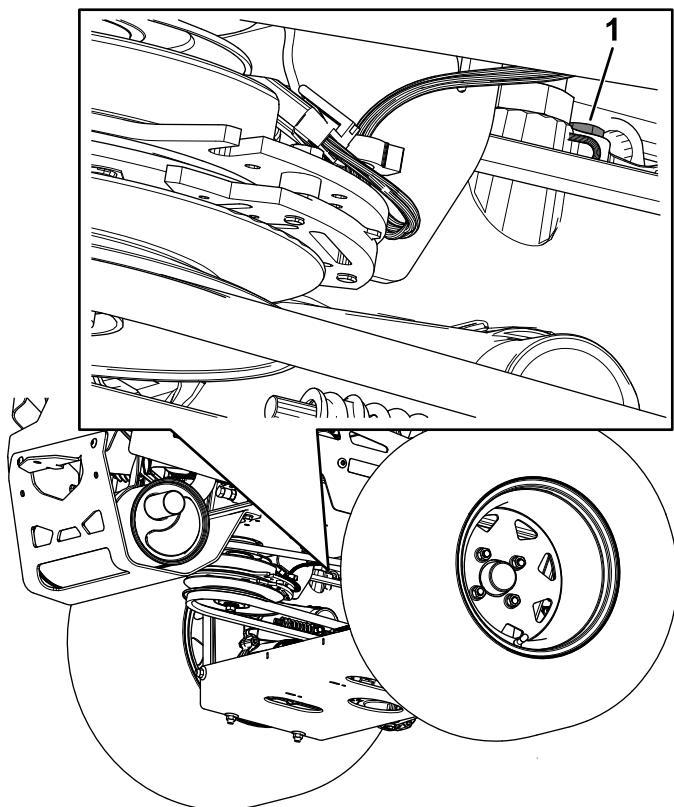

Figure 93
- **For ZT 5400 Hydros,** use a 7/16-inch wrench to access the vent plug from underneath the machine (Figure 93).